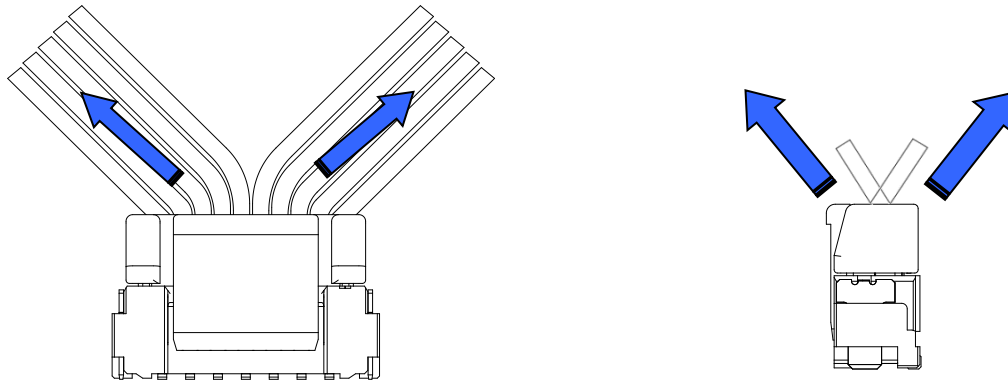

Fig.9-3-3 Wiring toward more than 2 direction.
- ※Wire routing inside customer’s device needs to avoid excessive stress. Please avoid pulling them toward more than 2 directions. (Fig.9-3-3)